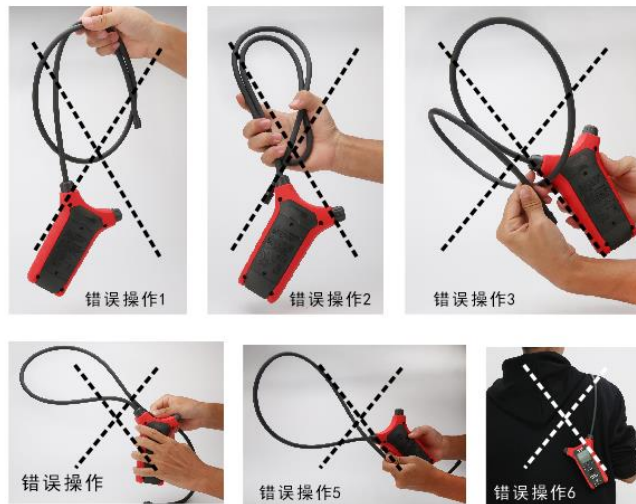

Figure 4.4
- 7) Do not perform the following improper operations. (see Figure 4.4)